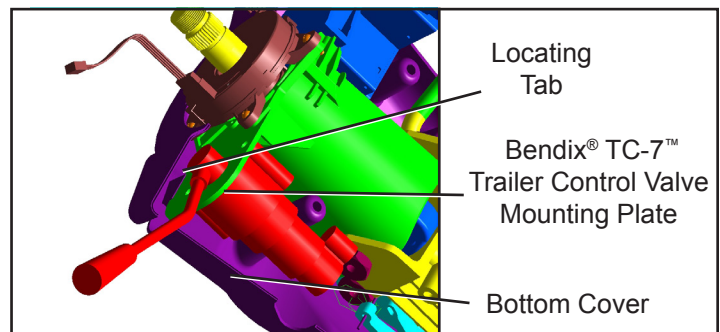

Figure 10 Bottom Cover Installation
5. Reinstall the column cover halves, starting with the bottom cover. Align the steering column screw hole of the bottom cover with the steering column hole. As shown in Figure 10, the locating tab inside the cover rests against the Bendix® TC-7™ trailer control valve mounting plate when properly positioned. Install the column screw. If the wire harness that attaches to the bottom cover becomes detached during installation, secure the wire harness and clip before installation.